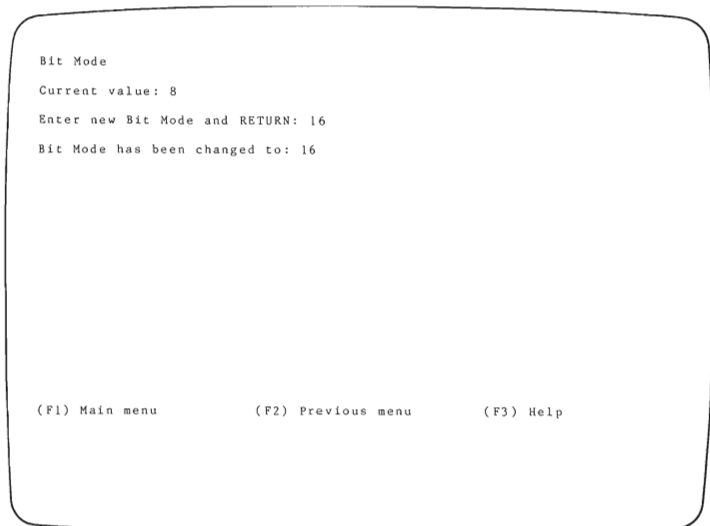

Figure 3-45. Bit Mode Screen
*Bit Mode* is used when you have data organized in groups of 16 or more bit words that you want to put in more than one 8-bit device. By entering a *Bit Mode* value (multiple of 8) at the screen prompt (figure 3-45), you are choosing the number of devices that the data will be divided into. The Bit Mode may be changed back to its default value of 8 by pressing the RETURN key. Refer to your programmer manual for details.